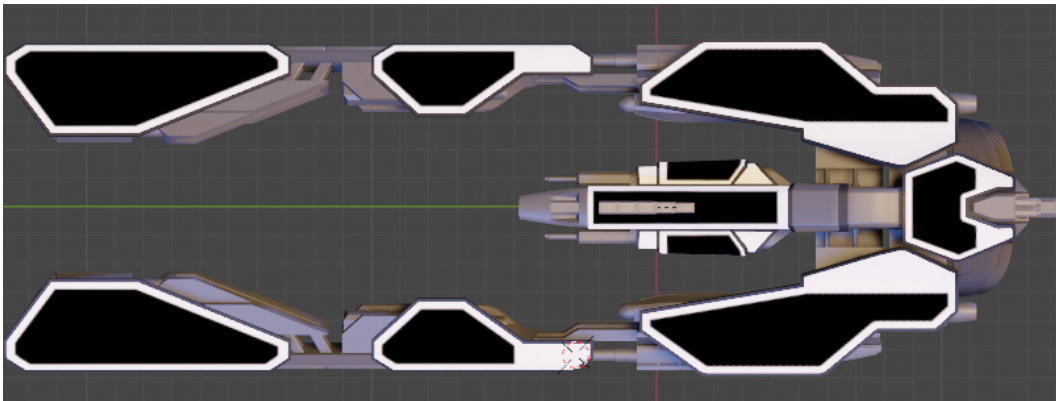

Figure 6.39 – Painted outlines
- Paint some outlines and shapes on all the armor panels using this tool. *Figure 6.39* might give you some ideas: